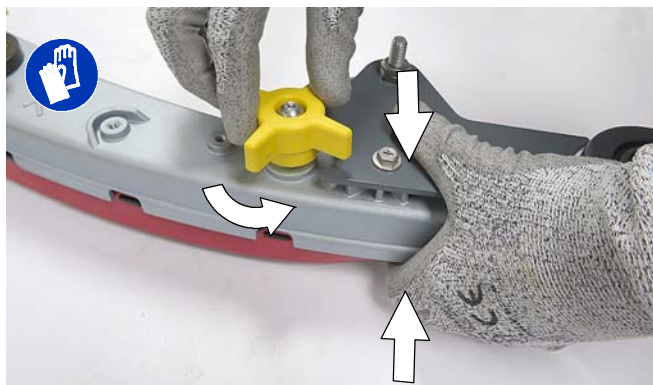

FIG. 137
2. Fully loosen all four star knobs on squeegee assembly. This will separate the spring loaded blade retainer from squeegee frame (Figure 137). To loosen the knobs quickly, squeeze the blade retainer and squeegee frame together.